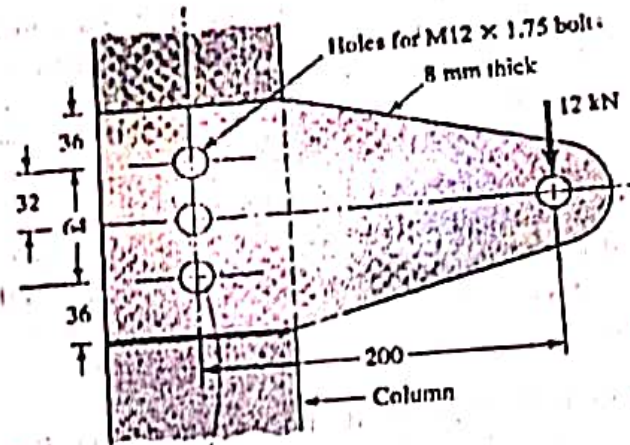
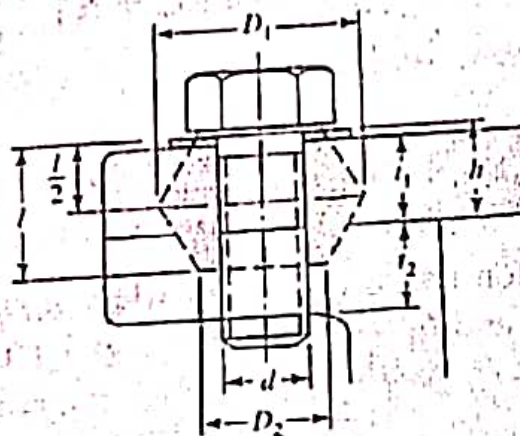
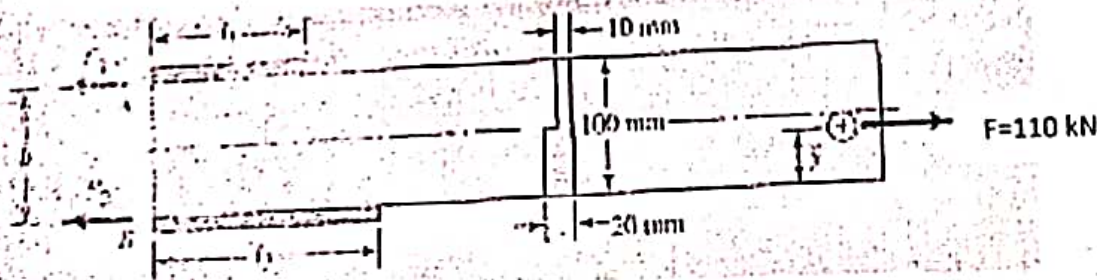

Fig. 2
Fig. 3
Fig. 4
- Q.2. (a) The cantilever bracket shown in Fig.2 is bolted to a column with three M12 x 1.75 ISO 8.8 bolts. The bracket is made from AISI 1020 hot rolled steel. Assume the bolt threads do not extend into the joint. Find the factors of safety for the following failure modes: shear of bolts, bearing of bolts, bearing of bracket, and bending of bracket. (10)
- (b) A square-thread power screw has a major diameter of 32 mm and pitch of 4 mm with double threads. The given data include co-efficient of frictions $f = f_c = 0.08$, mean diameter of the collar $d_c = 40 \text{ mm}$, external force $F = 7 \text{ kN}$ per screw. Find (a) Find efficiency and (b) Find the von Mises stress at the root of the thread and (c) maximum shear stress at the root of the thread. (10)
- Q.3. Fig.3 shows a connection using cap screw. The joint is subjected to a fluctuating force whose maximum value is 22 kN per screw. The required data are: class 5.8 cap screw, M14, hardened-steel washer, $t_w = 3.5 \text{ mm}$ thick; steel cover plate, $t_1 = 15 \text{ mm}$, $E_s = 206 \text{ MPa}$; and cast iron base, $t_2 = 15 \text{ mm}$, $E_b = 110 \text{ GPa}$. (a) Find k_b , k_m and C using the assumptions given in the caption of the Fig.3 and (b) Find factors of safety guarding against separation and fatigue. (15)
- Q.4. (a) Show the stress distribution across the sides (leg and the side perpendicular to the leg) and throat of a fillet weld. For the case of transverse fillet weld what is the effect of considering entire external force on the minimum throat area? (8)
- (b) A specially rolled A36 structural steel section for the attachment has a cross section as shown in the Fig.4 and has yield and ultimate tensile strengths of 248 and 400 MPa respectively. It is statically loaded through the attachment centroid by a load of $F = 110 \text{ kN}$. Unsymmetrical weld tracks can compensate for eccentricity such as that there is no moment to be resisted by the weld. Specify the weld track lengths l_1 and l_2 for an 8-mm fillet weld using an E70XX electrode. Check the condition applicable for the base metal also. (15)
- Q.5. (a) Explain the methods of developing beneficial residual stresses in a helical spring? Why load reversal is not advisable in a helical spring? (5)
- (b) A music wire helical compression spring is to be designed with life 10^6 number of cycles to resist a dynamic load that varies from 20 to 80 N at 5 Hz while the exd deflection varies from 12 to 26 mm. Because of assembly considerations, the solid height cannot exceed 25 mm and the free length cannot be more than 100 mm. (15)